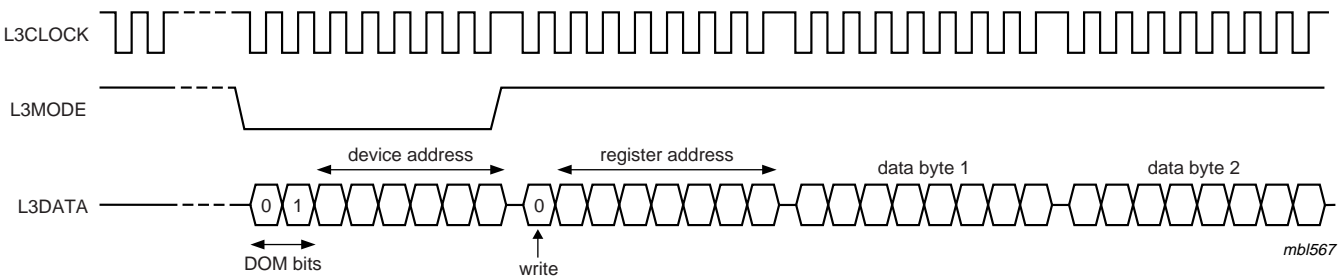

Fig 11. Data write mode
The address mode is used to select a device for a subsequent data transfer. The address mode is characterized by signal L3MODE = LOW and a burst of 8 pulses for signal L3CLOCK, accompanied by 8 bits (see Figure 11).
1. Addressing for write data: bit 0 is logic 0 indicating a write action to the destination register, followed by bits 1 to 7 indicating the register address (see Figure 11).
The data write mode is explained in the signal diagram of Figure 11. For writing data to a device, 4 bytes must be sent (see Table 14):